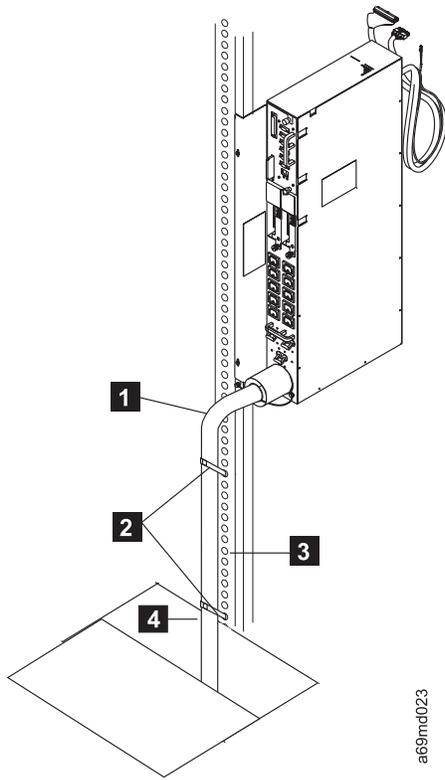

Figure 53. Securing 220V Power Cord
- ___ 5. Refer to Figure 53 on page 117. For each frame being installed, secure each power cord **1** coming from the customer power source to the FCA with two plastic cable ties **2** (P/N 1159519), using the EIA holes to the left of the FCA **3**. Place one tie near the FCA [about 35.6 cm (14 in.)] below the FCA power receptacle and another near the bottom of the frame [about 20.3 cm (8 in.)], above the access hole **4** in the bottom of the frame.